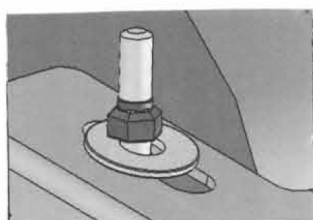

FIGURE 2b
- 6 Adjust (4) brush height adjustments bolts leaving 1/8" to 1/4" space between washer and lock nut (fig 2b)